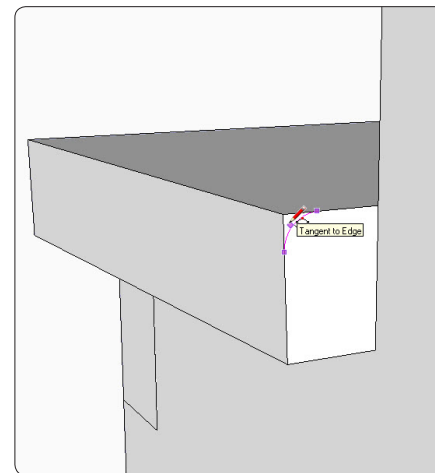
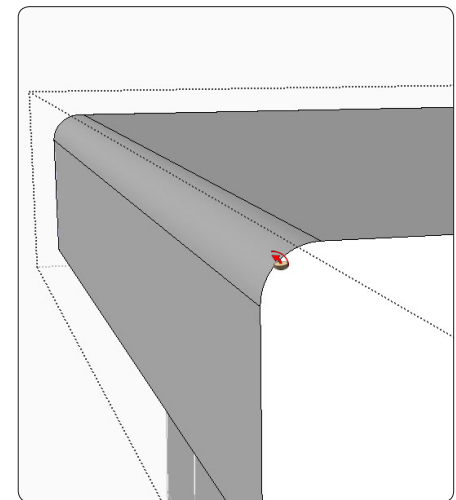

Figure 20. Draw an arc on the back of the step, which will become a round-over on the top edge.
Figure 21. Use the the Follow Me Tool to round-over the top edge of the step.
Step 17 Round over the top edge of each step. The size of the roundover isn't critical, but I used a 1/4-in. radius. Use the Arc Tool to draw the roundover shape on the back face of the step, on the side overhang, as shown in Figure 20. Select the top side and front edges of the step, then use the Follow Me Tool to click on the roundover shape (Figure 21). You can use the Soften/Smooth Edges function to remove extra lines on the roundover.